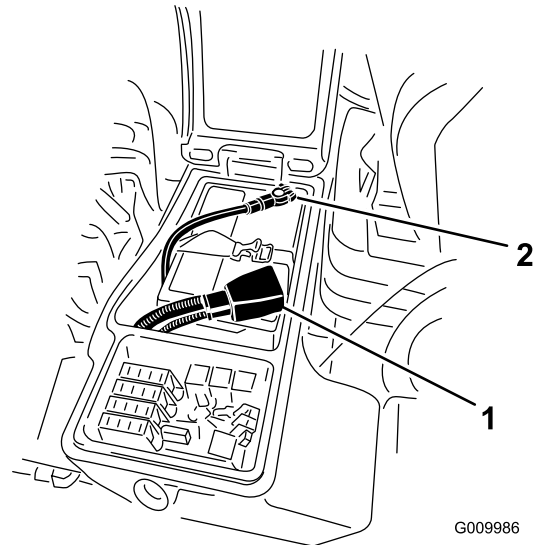

Figure 92
3. Remove the negative cable (black) from the negative (-) terminal and the positive cable (red) from the positive (+) terminal of the battery (Figure 92).
6. Install the positive cable (red) to the positive (+) terminal and the negative cable (black) to the negative (-) terminal of the battery (Figure 92).